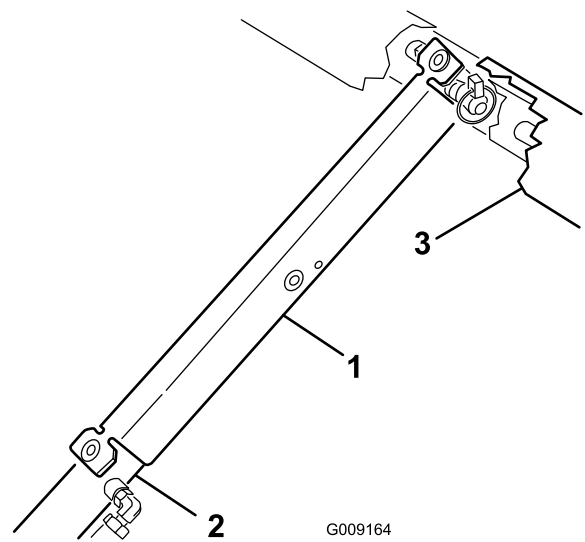

Figure 47
7. Push the bed support onto the cylinder rod, making sure the support end tabs rest on the end of cylinder barrel and on the cylinder rod end (Figure 47).